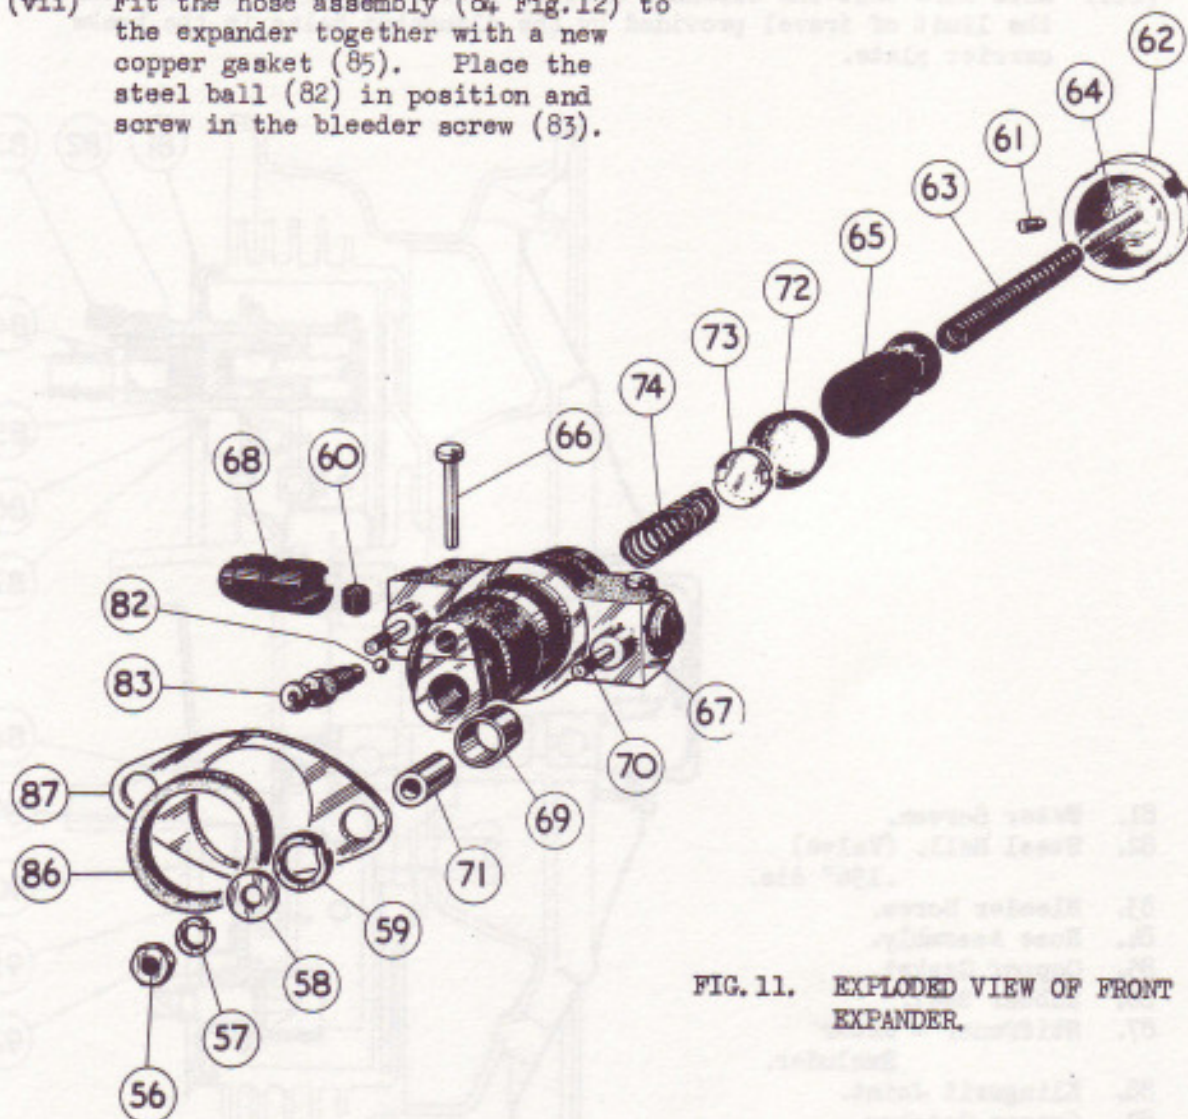
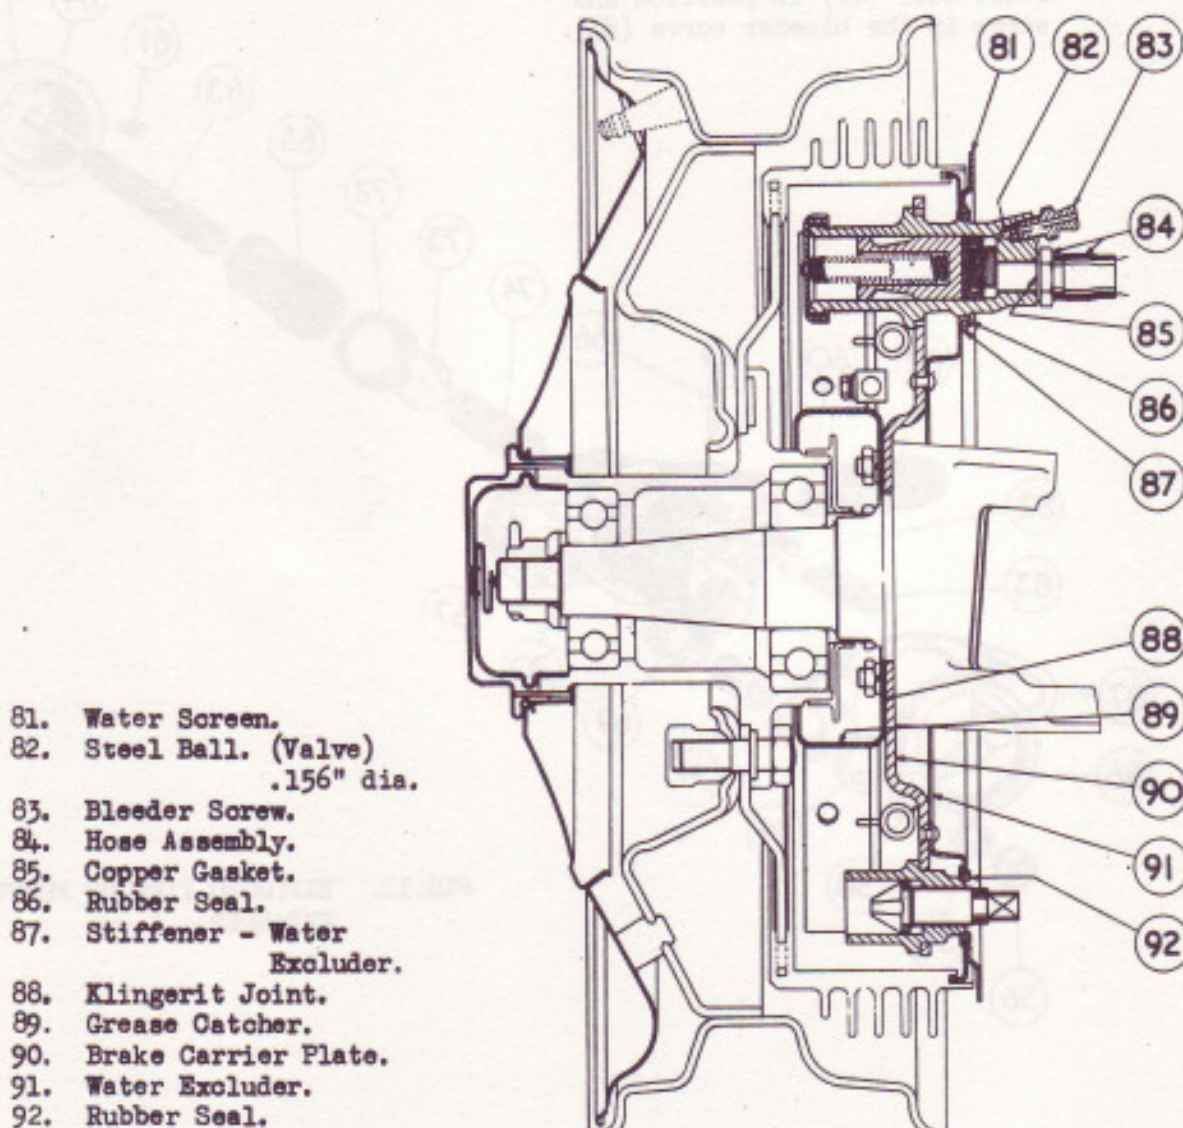
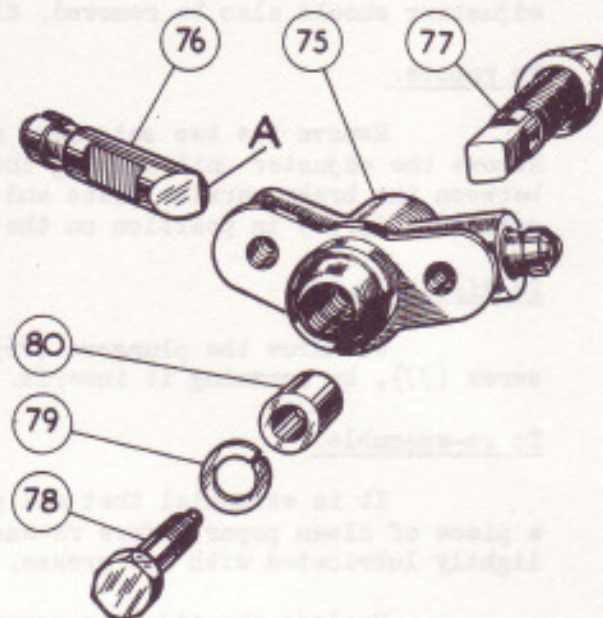

FIG. 11. EXPLODED VIEW OF FRONT EXPANDER.
FIG. 12. SECTION THROUGH FRONT BRAKE.
FIG.14. EXPLODED VIEW OF FRONT ADJUSTER.
Unscrew the hose connection (84 Fig.12), complete with the copper gasket (85) from the expander.
- (ii) With the brake shoes removed, remove the two nuts (56 Fig.2 Sub-Section BJ.1), the spring, plain and Thackeray washers, the distance pieces (71) and the stiffener (87 Fig.12), complete with the rubber seal (86). Then withdraw the expander unit from the brake carrier plate leaving the two distance pieces (69) in position between the brake carrier plate and the water excluder (91).
- (ii) Remove the retaining pins (66) which will allow the plungers (68) and the roller (60) to be removed.
- (iii) Remove the grub screw (61) and then with a suitable 'C' spanner remove the threaded cap (62) complete with the spring (63). Care should be taken while unscrewing the cap to prevent it flying off due to the compression of the spring.
- (iv) Remove the expander cone (65), rubber cup (72) and spring (74), complete with the end cap (73).
- (v) Remove the bleeder screw (83 Fig.12), taking care not to loose the steel ball (valve) (82).
- (ii) Place the spring (74 Fig.11) complete with the end cap (73) into the cylinder of the expander, entering the spring first. Enter the rubber cup (72) with the lip inwards into the cylinder for a depth of about half an inch, followed by the expander cone (65) with the hole therein outermost.
- (iv) Place the roller (60) in the deep end of the inclined slot of the plunger (68) and slide them together into one of the plunger bores, with the retaining pin slot in the plunger in line with the corresponding hole in the housing.
- (v) Insert retaining pin (66) from the top of the housing as shown in Fig.11, and then open the split end sufficiently to secure. Fit the other plunger, roller and retaining pin in a similar manner.
- (vi) Place the spring (63) into the hole in the expander cone, then entering the guide rod attached to the cap (62) into the spring, replace the cap and screw up. Lock the cap by fitting and tightening the grub screw (61).
- (vii) Fit the hose assembly (84 Fig.12) to the expander together with a new copper gasket (85). Place the steel ball (82) in position and screw in the bleeder screw (83).
Remove the two setscrews and spring washers (78 & 79 Fig.14). Remove the adjuster unit leaving the two distance pieces (80) in position between the brake carrier plate and the water excluder. Leave the rubber seal (92 Fig.12) in position on the water excluder.
Replace the adjuster screw in the housing and then correctly replace the plungers. It is important to note that the plungers are handed and it is possible to assemble them the wrong way round. When assembled the inclined faces 'A' (Fig.14) on the inner ends of the plungers must be parallel when viewed along the axis of the adjuster screw. When the plungers are correctly assembled there are four evenly spaced clicks per turn of the adjuster screw. Should they be incorrectly assembled there will be eight unequally spaced clicks per turn.